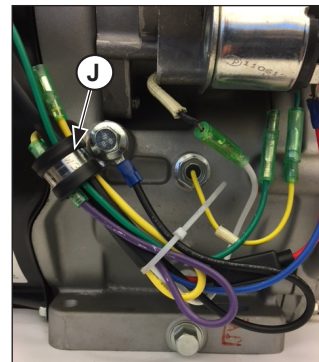

Figure 8. Install New Clamp.
12. Wrap new clamp (J) around wires and attach clamp and key box black wire to crankcase with bolt removed in step 1. See Figure 8.